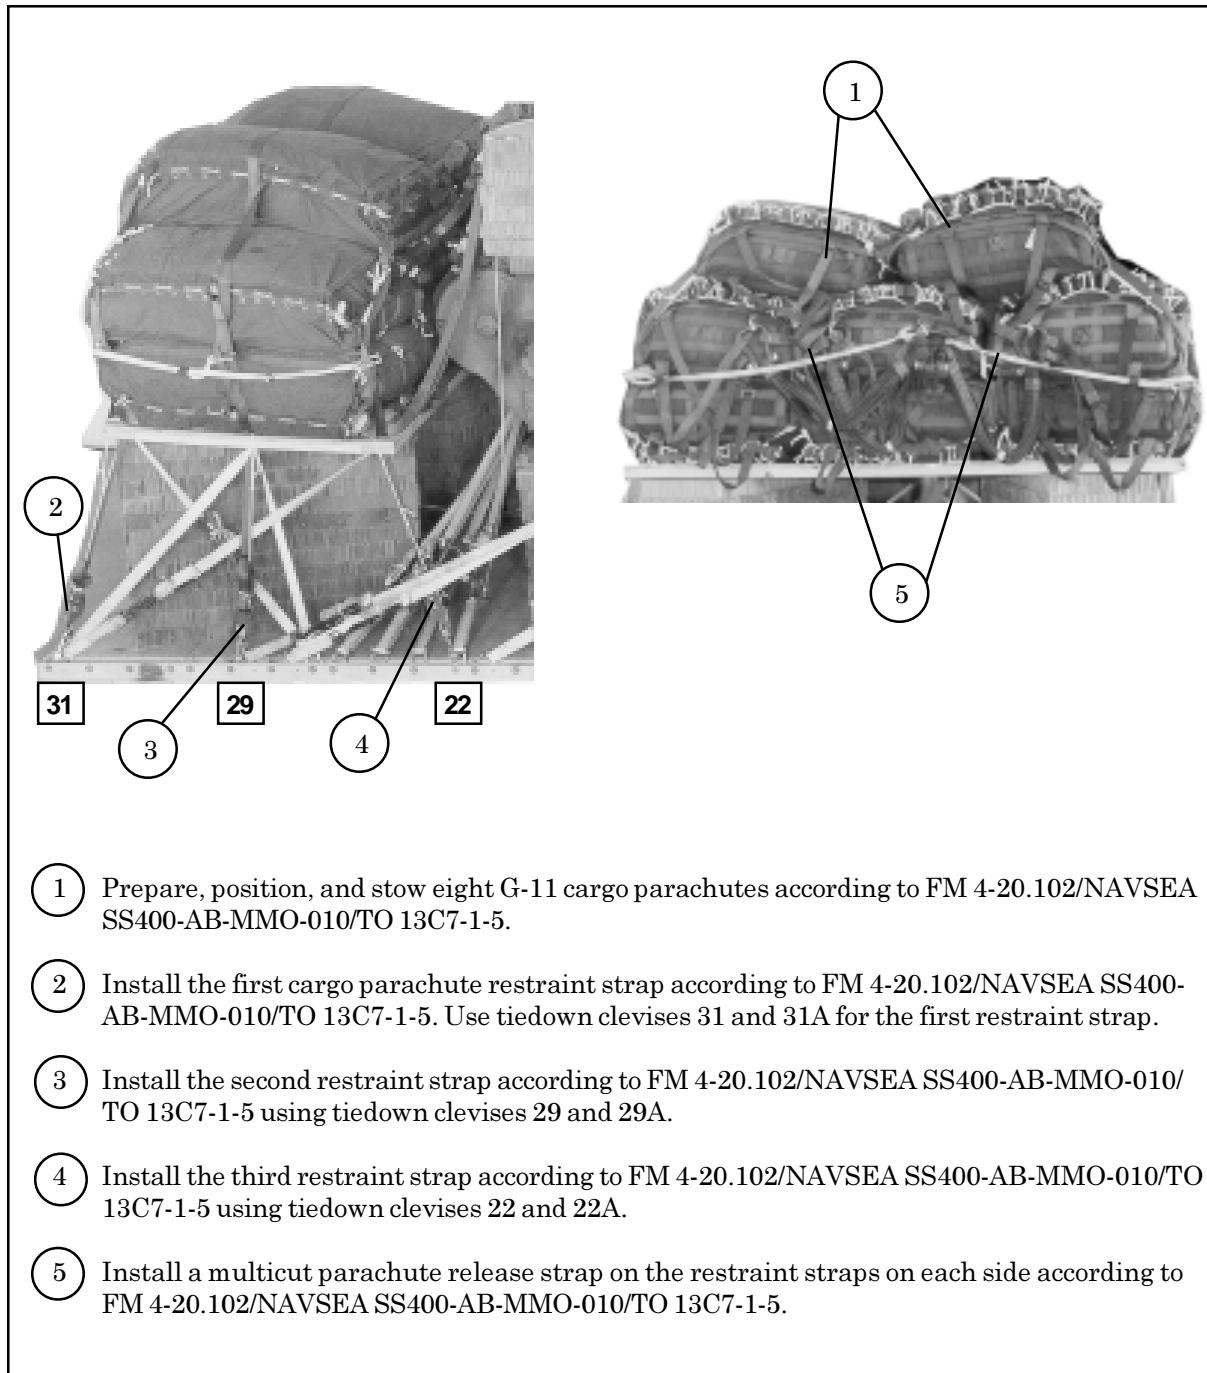

Figure 2-26. Parachute Stowage Platform Positioned, Secured, and Stowed
c. **Stowing Parachutes.** Stow the parachutes as shown in Figure 2-26.